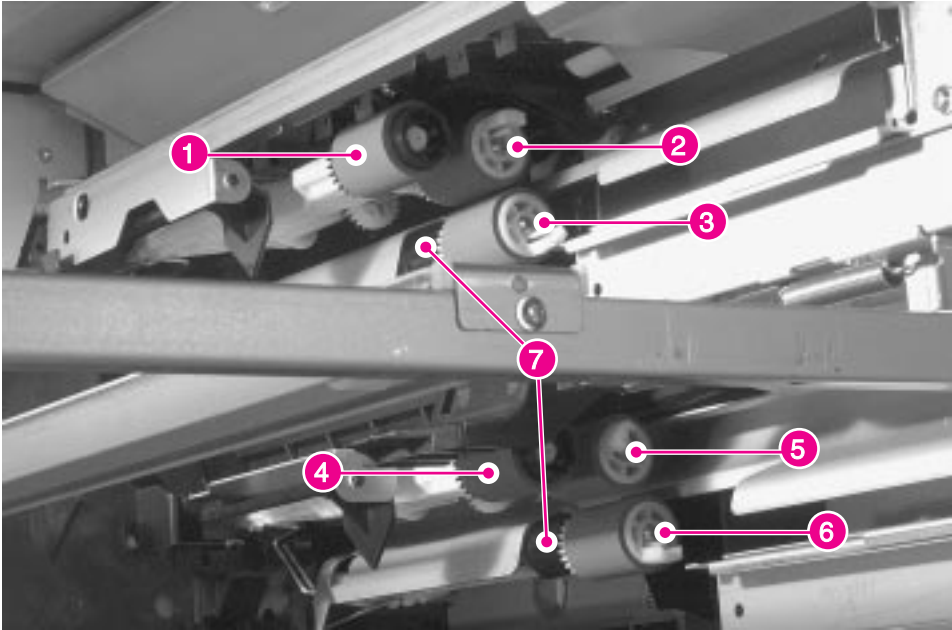

Figure 6-48 Tray 2 and 3, Pickup, Feed, and Separation Rollers
- Tray 2 Pickup Roller: figure 6-48, callout 1
- Tray 2 Feed Roller: figure 6-48, callout 2
- Tray 2 Separation Roller: figure 6-48, callout 3
- Tray 3 Pickup Roller: figure 6-48, callout 4
- Tray 3 Feed Roller: figure 6-48, callout 5
- Tray 3 Separation Roller: figure 6-48, callout 6
The Feed and Separation rollers have protruding tabs, and the pickup rollers have recessed retaining tabs. Be careful not to lose the plastic torque limiters located behind the Separation Rollers (figure 6-48, callout 7).